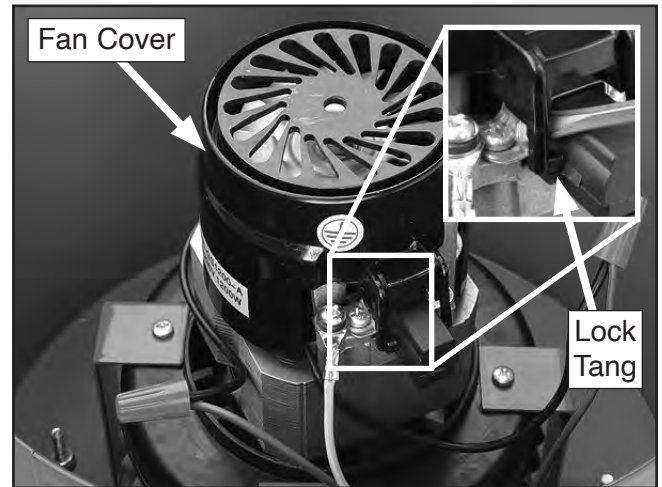

Figure 35. Brush removal.
4. While pulling the fan cover upwards, use a standard screwdriver to slightly pry out the cover lock tangs (see **Figure 35**) and remove the cover from the motor.